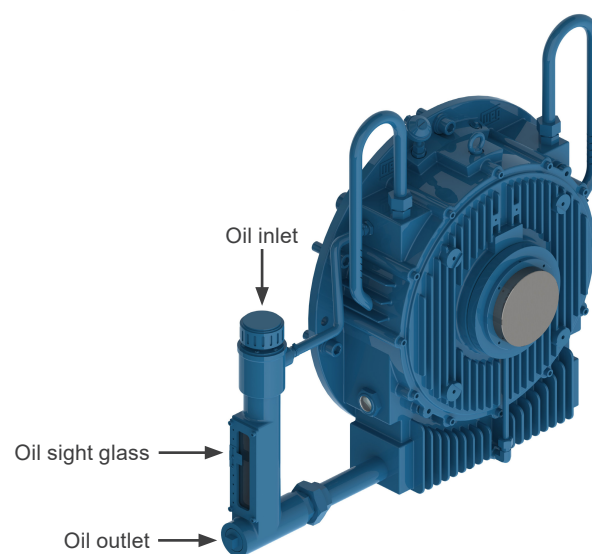

Figure 8.2: Oil lubricated bearing - horizontal mounting
- Drain the oil through the drain hole located at the bottom of the bearing (see Figure 8.2 on page 72).